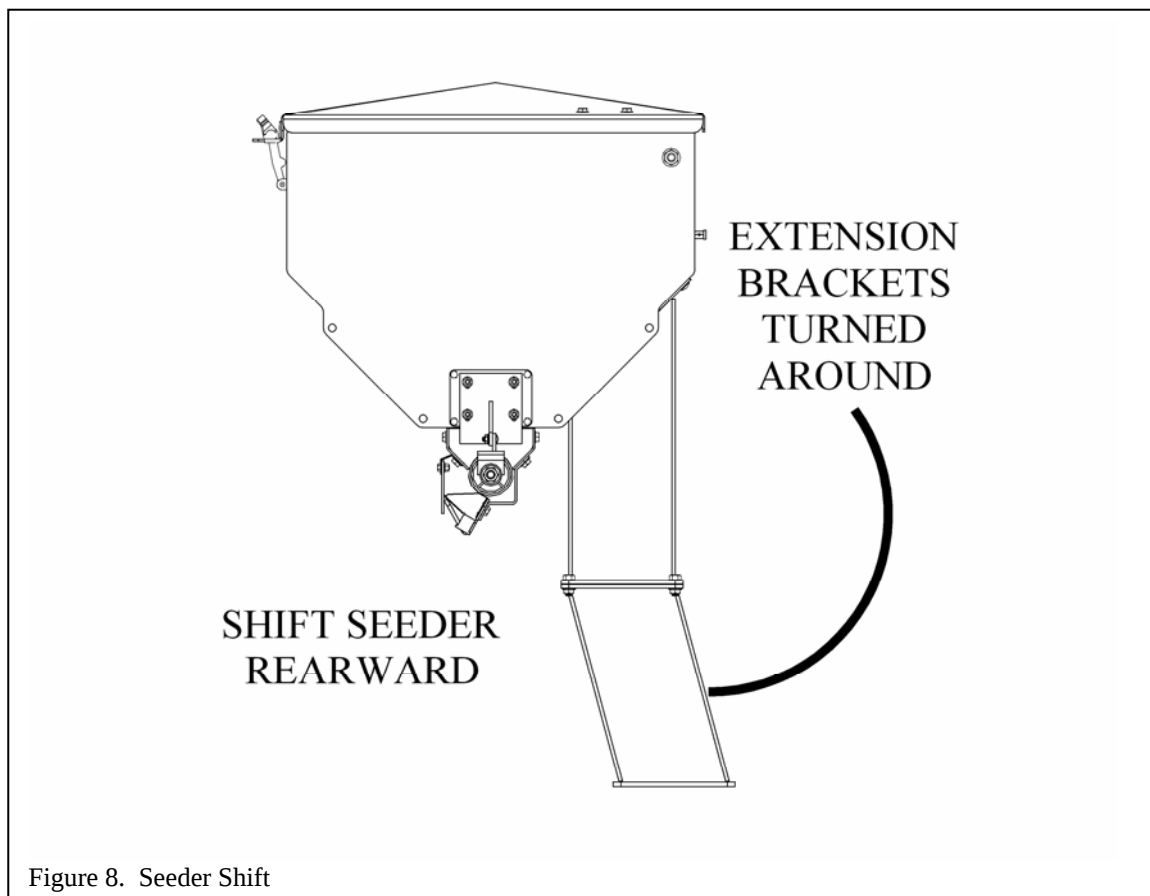

Figure 8. Seeder Shift
- Use a hoist to hold the hopper in the air while unfastening the extension mounts from the Agri-vator deck and rotating them rearward. After refastening, the hopper should be 6" behind its original position, Figure 8.